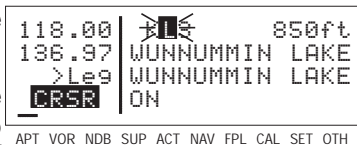

Figure 4-70
3. Move the cursor one place to the right and select an **L** (figure 4-70).